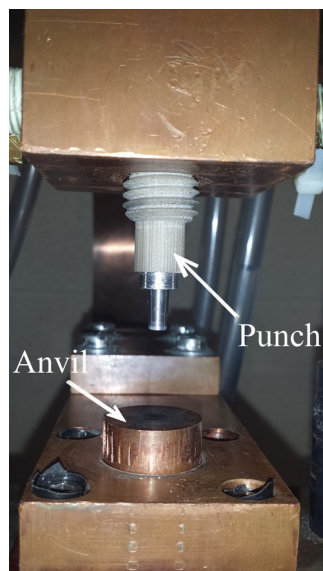

Figure 5. Punch and flat anvil installation for die-less clinching experiments.
10. Inspect the punch and anvil for cleanliness and damage and then install them as in Figure 5 below.